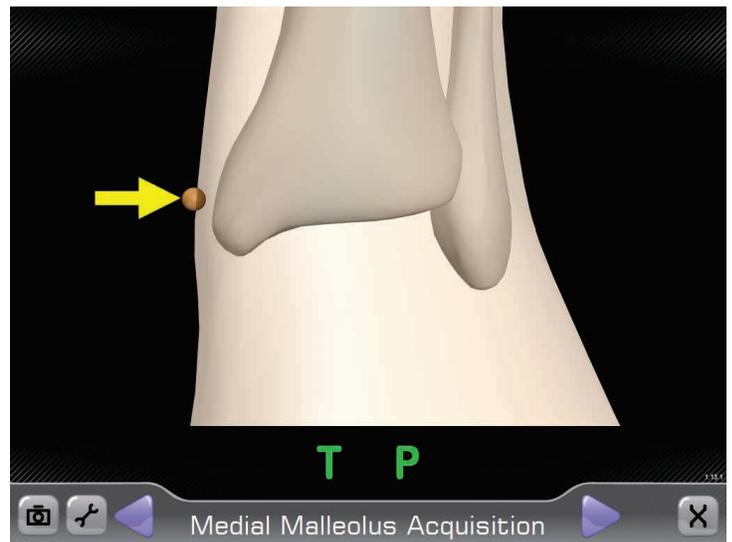
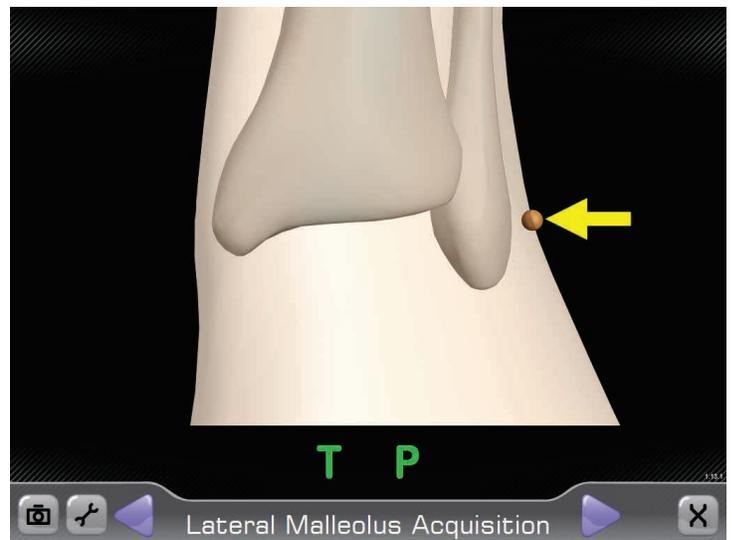

Figure 33
Figure 34
Advance to the Medial Malleolus Acquisition screen (Figure 33). Position the tip of the Probe Tracker (P) on the medial malleolus and press the Forward button to register this point. The system will automatically advance to the Lateral Malleolus Acquisition screen (Figure 34).